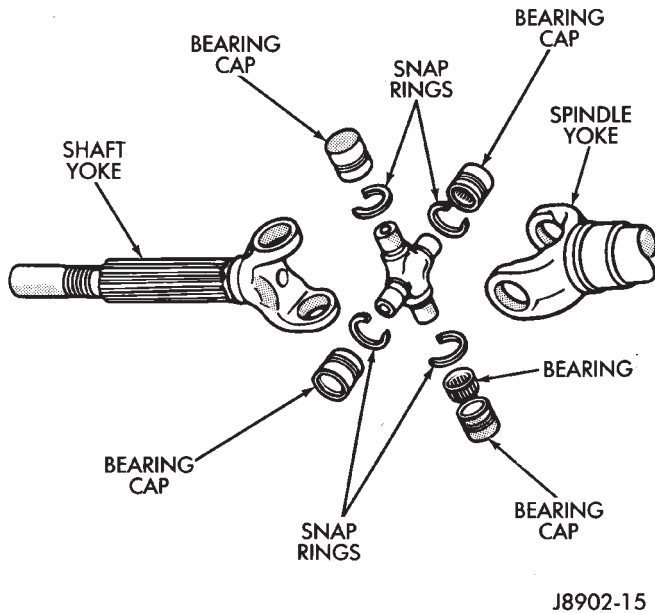

Fig. 7 Axle Shaft Outer U-Joint
(1) Remove the bearing cap retaining snap rings (Fig. 7).